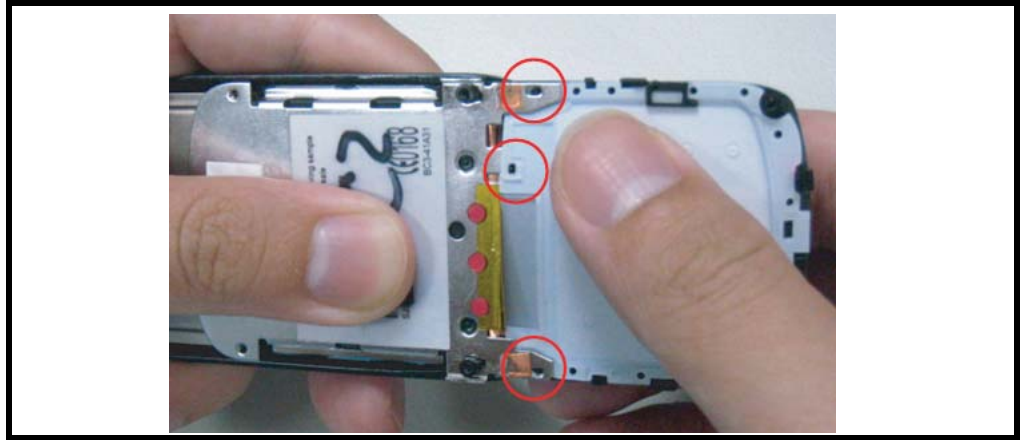

Figure 18. Removing Keypad
2. Push up the keypad then pull out gently the keypad from the key ring of the hinge as shown Figure 18.